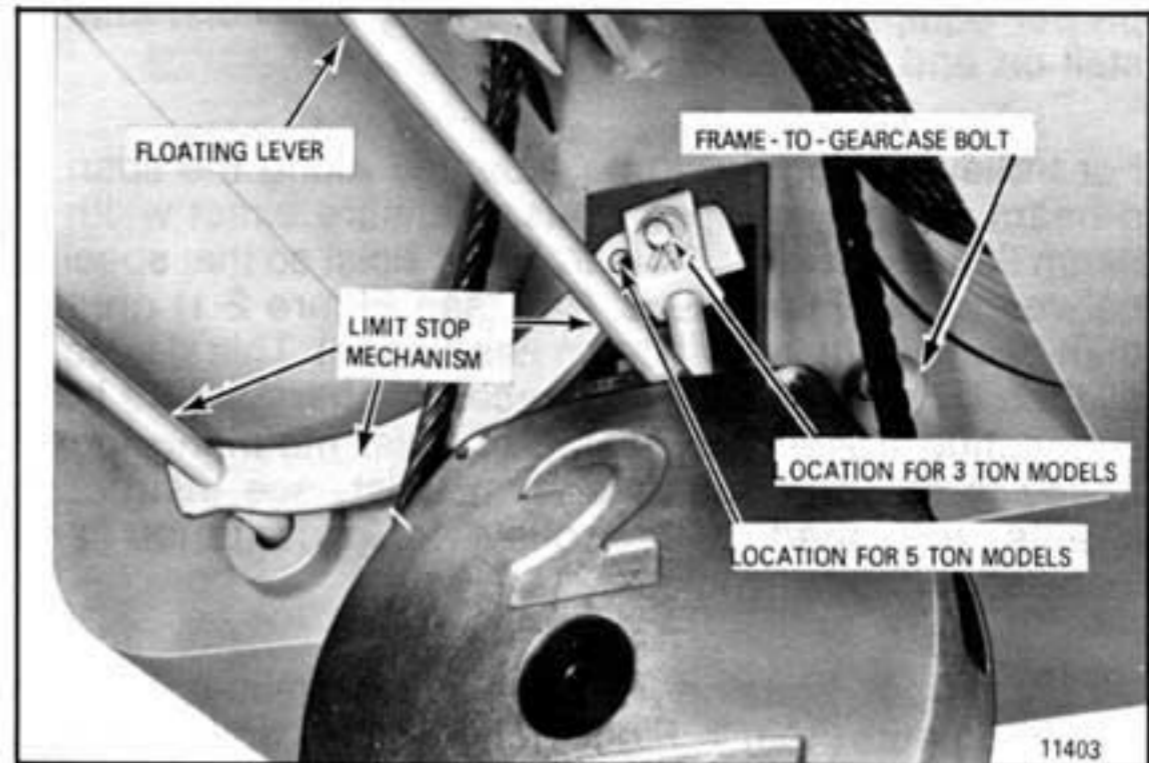

Figure 2-2. Limit Stop Mechanism Being Tripped by Lower Block.
(1) A block operated upper limit stop (Figure 2-2) is furnished as standard equipment. This limit stop is factory set to stop lower block in its high position and guard against over-travel and possible damage to hoist. (Note mounting position of floating lever for 3 and 5 ton hoists.) No adjustment can be made. Limit switch operation should be tested when hoist is installed. Move hook to a low position by depressing push button marked "DOWN". Now depress button marked "UP" to raise hook. While hook is traveling upward, manually (or with an extension pole) raise limit stop mechanism (Figure 2-2).